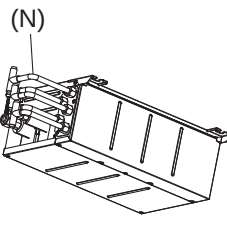

Fig. 8-7
- To divide the wirings of each terminal block into 2 branches outside the Branch box, use 2-branch wiring conduits (N). (Fig. 8-7)